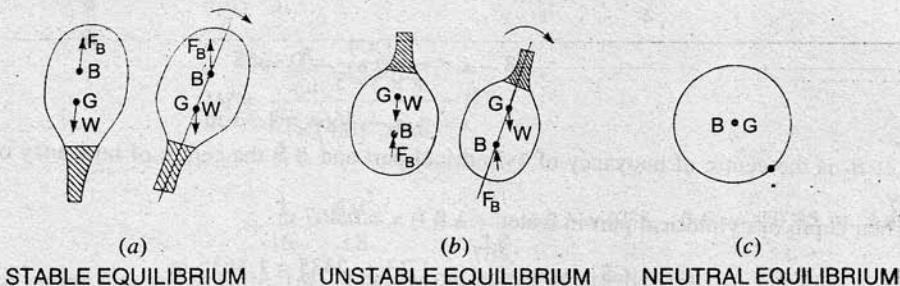

Fig. 4.12 *Stabilities of sub-merged bodies.*
4.7.1 Stability of a Sub-merged Body. The position of centre of gravity and centre of buoyancy in case of a completely sub-merged body are fixed. Consider a balloon, which is completely submerged in air. Let the lower portion of the balloon contains heavier material, so that its centre of gravity is lower than its centre of buoyancy as shown in Fig. 4.12 (a). Let the weight of the balloon is W . The weight W is acting through G , vertically in the downward direction, while the buoyant force F_B is acting vertically up, through B . For the equilibrium of the balloon $W = F_B$. If the balloon is given an angular displacement in the clockwise direction as shown in Fig. 4.12 (a), then W and F_B constitute a couple acting in the anti-clockwise direction and brings the balloon in the original position. Thus the balloon in the position, shown by Fig. 4.12 (a) is in stable equilibrium.
(b) Unstable Equilibrium. If $W = F_B$, but the centre of buoyancy (B) is below centre of gravity (G), the body is in unstable equilibrium as shown in Fig. 4.12 (b). A slight displacement to the body, in the clockwise direction, gives the couple due to W and F_B also in the clockwise direction. Thus the body does not return to its original position and hence the body is in unstable equilibrium.
(c) Neutral Equilibrium. If $F_B = W$ and B and G are at the same point, as shown in Fig. 4.12 (c), the body is said to be in Neutral Equilibrium.